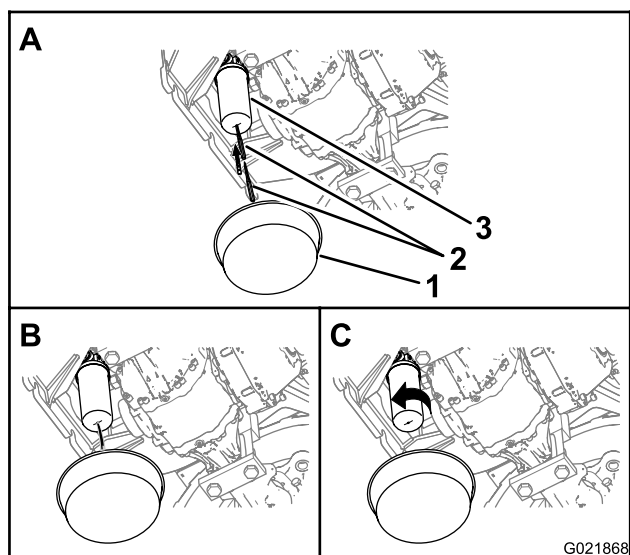

Figure 93
2. Puncture the bottom of the hydraulic-pressure filter and allow the residual hydraulic fluid to drain in the container (Figure 93).
3. Rotate the hydraulic-return filter counterclockwise and remove the filter (Figure 93).
Note: You can access the hydraulic-return filter from underneath the rear of the machine (Figure 93).
1. Place a container under the hydraulic-pressure filter (Figure 93).